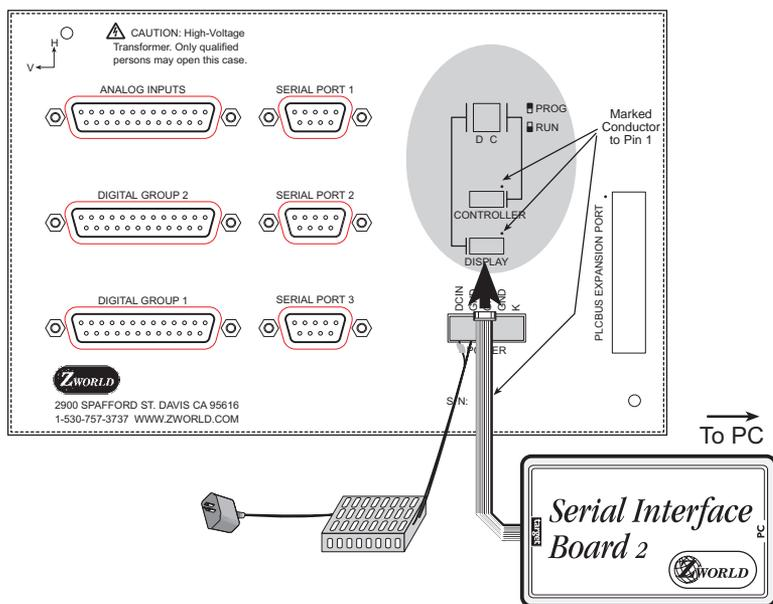

Figure 2-5. PK2600 SIB2 Programming Connections
3. Plug the SIB2's 8-pin connector onto the **CONTROLLER** header located on the back of the PK2600, as shown in Figure 2-5. Make sure that pin 1 on the ribbon cable connector (on the striped side) matches up with pin 1 on the **CONTROLLER** header (indicated by a small black dot next to the header).
3. Plug the SIB2's 8-pin connector onto the **DISPLAY** header located on the back of the PK2600, as shown in Figure 2-5. Make sure that pin 1 on the ribbon cable connector (on the striped side) matches up with pin 1 on the **DISPLAY** header (indicated by a small black dot next to the header).